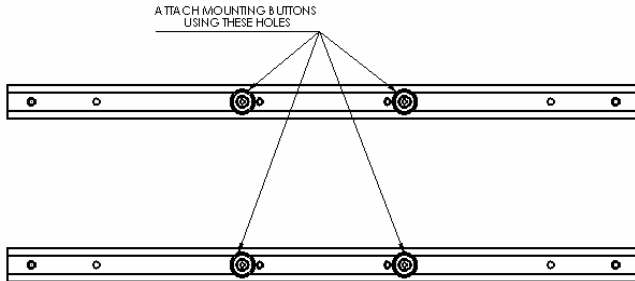
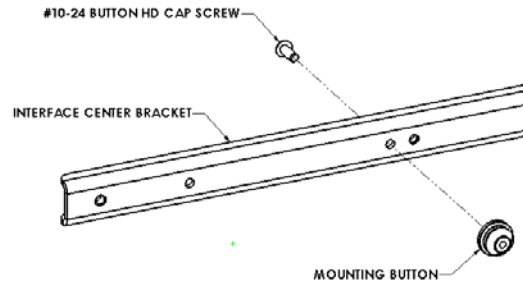

Figure 2
Figure 3
1. Using #10-24 screws secure mounting button (hex key provided), with chamfered hole of mounting button (larger surface) facing bracket, to bracket (4 places) (see Figure 2 and Figure 3).